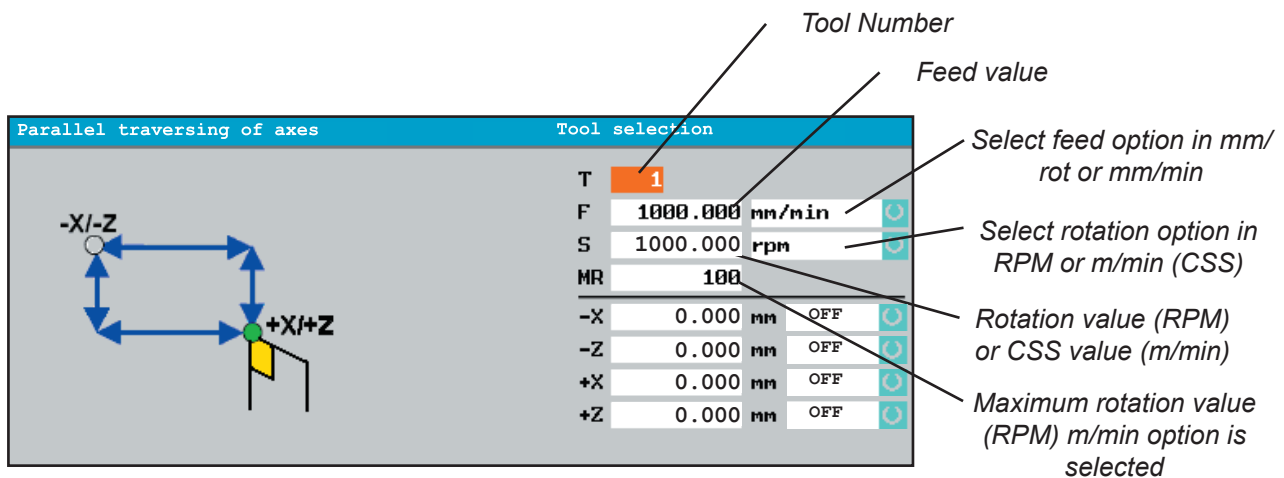

Figure 4-1. "Parallel traversing of axes" mode screen
- Define the desired manual movement mode (see item 4.2)
- Place cursor on **feed option** for selection (see figure 4.1)